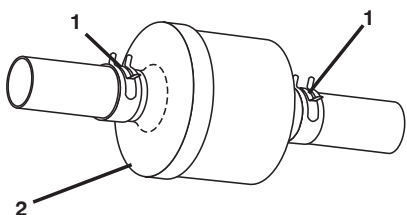

Figure 24
1. With engine cool, remove filter and plug fuel line sections (Figure 24).